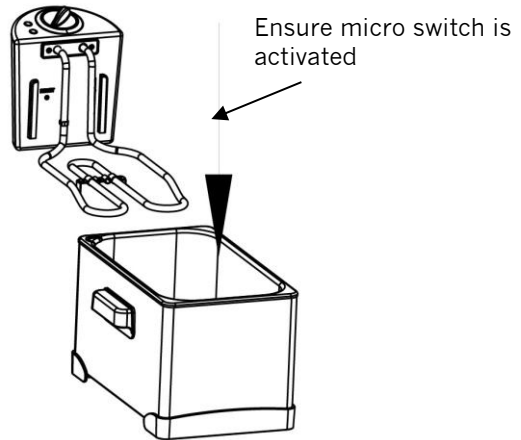

Fig. 2
4. Fit the heating element into the oil tank (fig. 2) ensuring that the control panel is correctly engaged into the brackets at the rear of the casing so that the micro switch is activated. If the control panel is not correctly fitted, the micro switch will prevent the fryer from working.
- How to fit the control housing to the outer casing – fig 2 & 3.